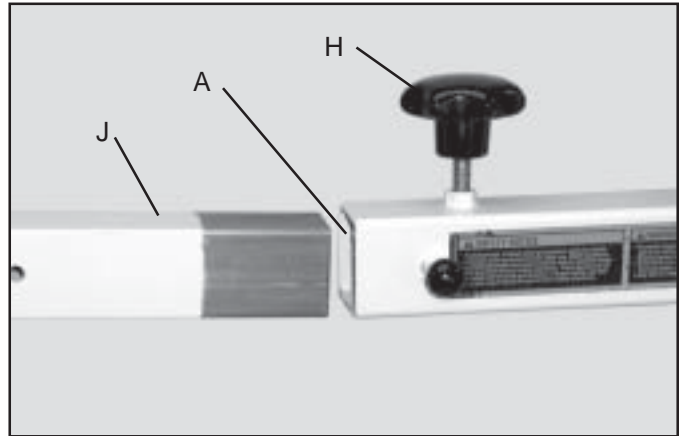

Fig. 16
15. Thread knob (H) Fig. 16, into mounting bracket (A) as shown. Insert T-arm (J) Fig. 16, into mounting bracket (A).